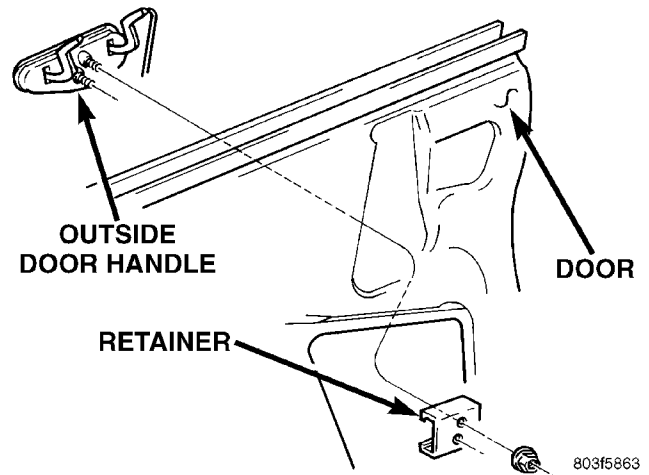

Fig. 28 Front Door Outside Handle
- (1) Remove door trim panel and water shield.
- (2) Close door glass.
- (3) Disconnect lock and latch rods from door latch.
- (4) Remove nut holding door handle retainer to outer door panel (Fig. 28).
- (5) Separate retainer from back of door handle.
- (6) Separate door handle from vehicle.